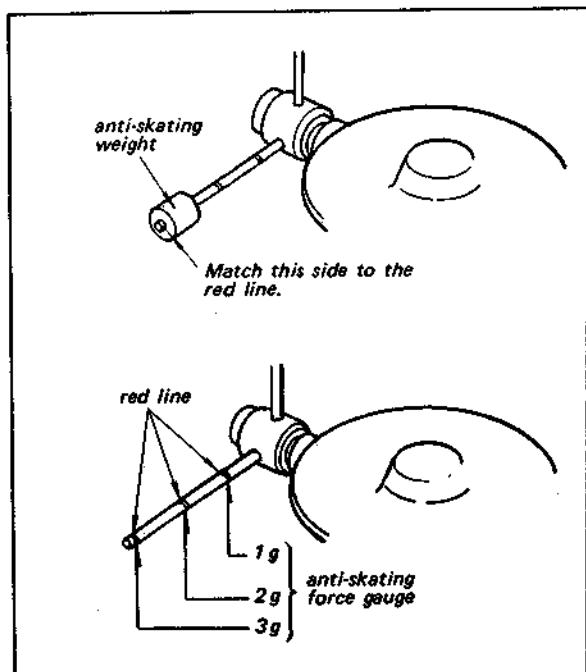

Fig. 3-10. Anti-skating force adjustment
Note: For specific anti-skating force falling between two lines (for instance 1.5 g, etc.), slide the weight to the left or right to set it to the corresponding position between the lines as shown in Fig. 3-10.
2. Adjust the anti-skating force by matching its left side of the weighting to the edge (3 g) of the three lines on the anti-skating force gauge as shown in Fig. 3-10.